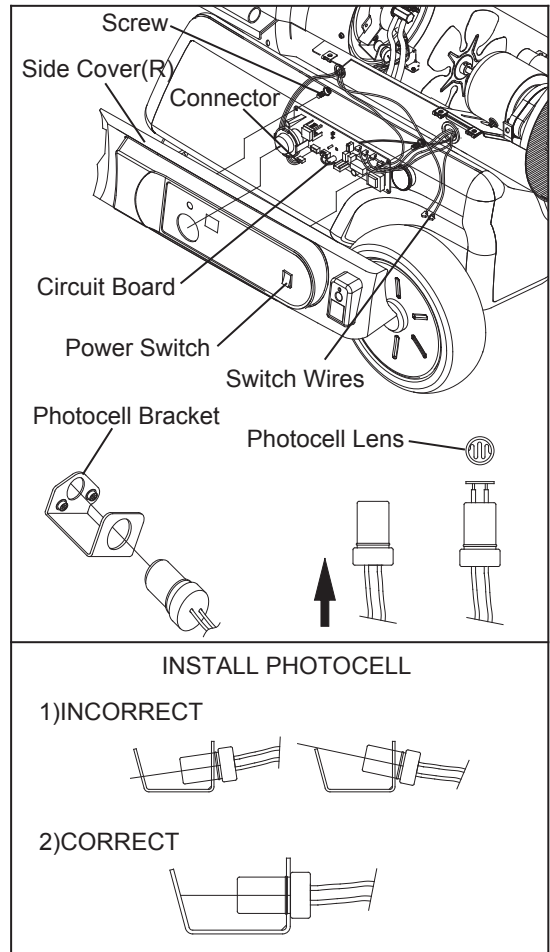

Figure 18. Replace & Cleaning Photocell
- These Screws attach Main PCB to Side Cover.(See Figure 18)
- Replace Circuit Board to Side Cover(R) and Switch wires to Power Switch.